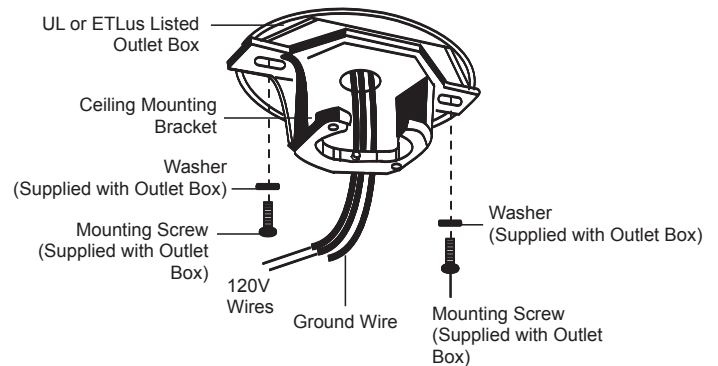

Fig. 5
Step 1. Pass the 120 volt supply wires from the ceiling outlet box through the center of the ceiling mounting bracket (**Fig. 5**) then carefully route the wires through the back of the mounting bracket to make it easier to install the fan to the bracket.
Step 2. Attach the ceiling mounting bracket to the outlet box using the mounting screws and washers included with the outlet box. (**Fig. 5**)